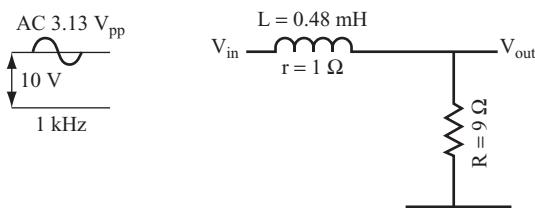

FIGURE 6.59
- 7.** Use the circuit shown in Figure 6.59.